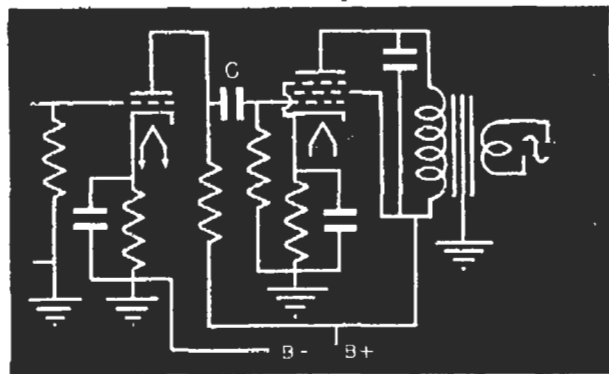

FIG. 10. A typical resistance-coupled audio stage.
► Notice—*either of the conditions just described would cause noise, rather than intermittent reception, if it occurred frequently enough.* For example, if one of the connections to coupling condenser *C* in Fig. 10 were to open, then close again in a few seconds, the signal level will jump up and down, and you would diagnose the condition as intermittent reception. But if exactly the same effect occurred much more frequently—say several hundred times a second—the set would be noisy. Similarly, other rapid open-and-closing actions will produce noise, while a slower tempo will cause another form of intermittent reception. For instance, if the screen grid by-pass opens and closes